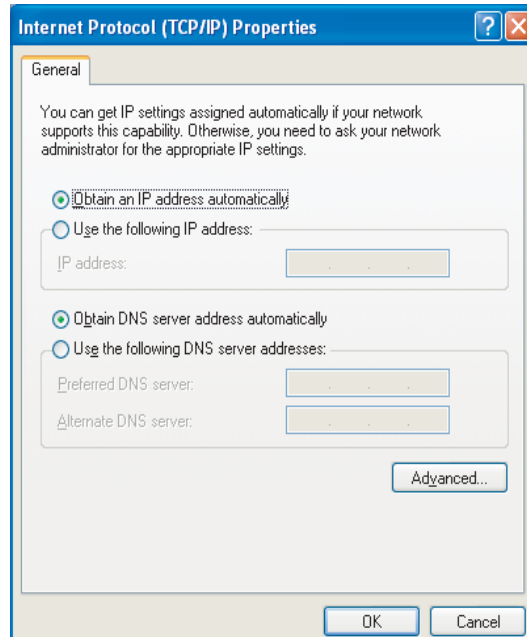

Figure 3.11: Windows XP Internet Protocol Settings
- 14 Select the *Networking* tab. Select *Internet Protocol (TCP/IP)* and press the *Properties* button. Configure the settings as shown in Figure 3.11.